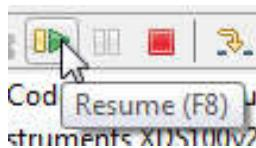

Figure 19: The "Resume" play icon
6. Select “Resume,” as shown in **Figure 19** which looks like a yellow vertical line with a green triangle beside it, to begin executing program code.